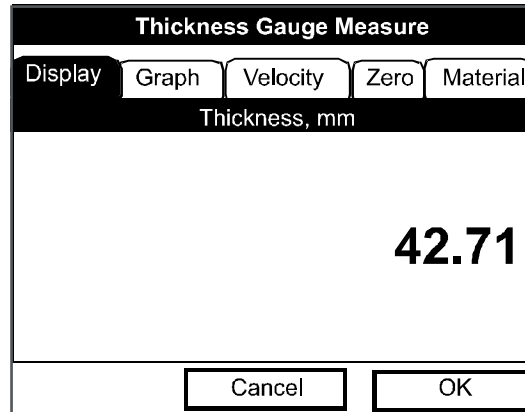

Figure 134: The Thickness Gauge Display Window
2. Measuring the pipe wall thickness (in the Display window on *Figure 134*), and
To measure the actual thickness of a pipe, apply couplant to the calibrated thickness gauge transducer and hold the transducer steady against the pipe. Then press the [◀] or [▶] arrow key until you reach the Display tab and press [ENTER]. The T-Gauge Display option shows the thickness measurement in numeric format (displayed in Figure 134).